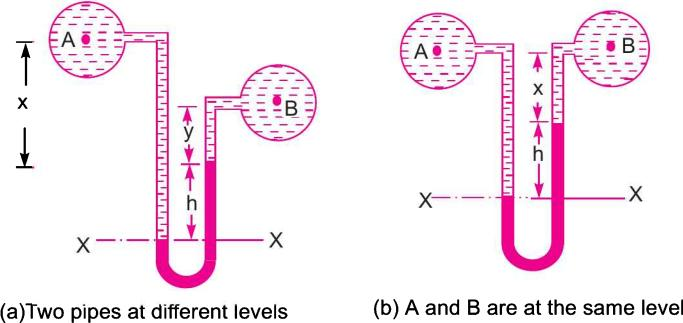

Fig. 2.18 U-tube differential manometers.
2.7.1 U-tube Differential Manometer. Fig. 2.18 shows the differential manometers of U-tube type.
In Fig. 2.18 (a), the two points A and B are at different level and also contains liquids of different sp. gr. These points are connected to the U-tube differential manometer. Let the pressure at A and B are p_A and p_B .
In Fig. 2.18 (b), the two points A and B are at the same level and contains the same liquid of density ρ_1 . Then